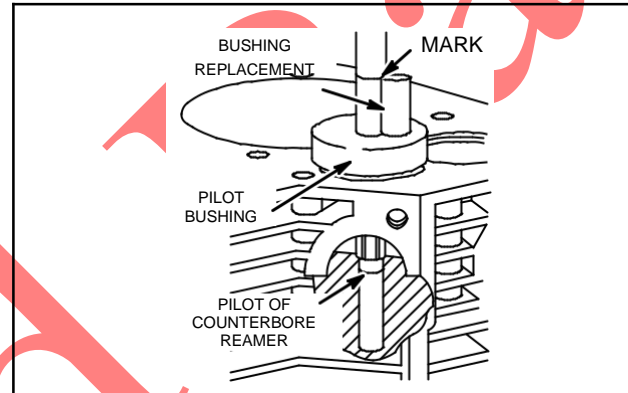

Fig. 11 – Mark Reamer
3. Mark reamer level to  $1/16"$  (1.6 mm) above top edge of service bushing, Fig. 11.